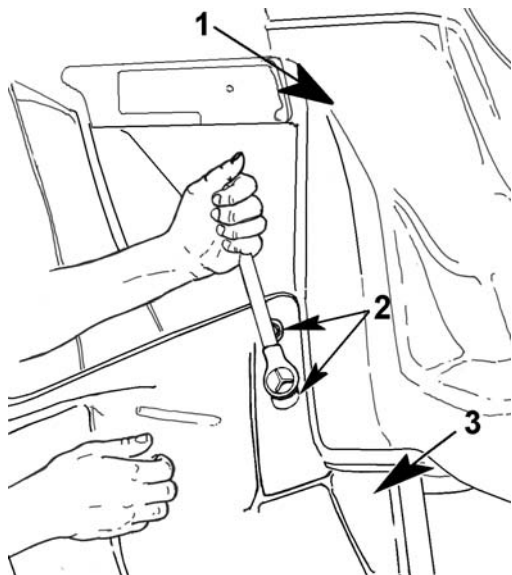

Figure 96 Splash Panel Install (Driver Side Shown)
1. Align the splash panel mounting holes with the hood mounting holes (Figure 96, Item 1) and insert the mounting bolts and lock washers.